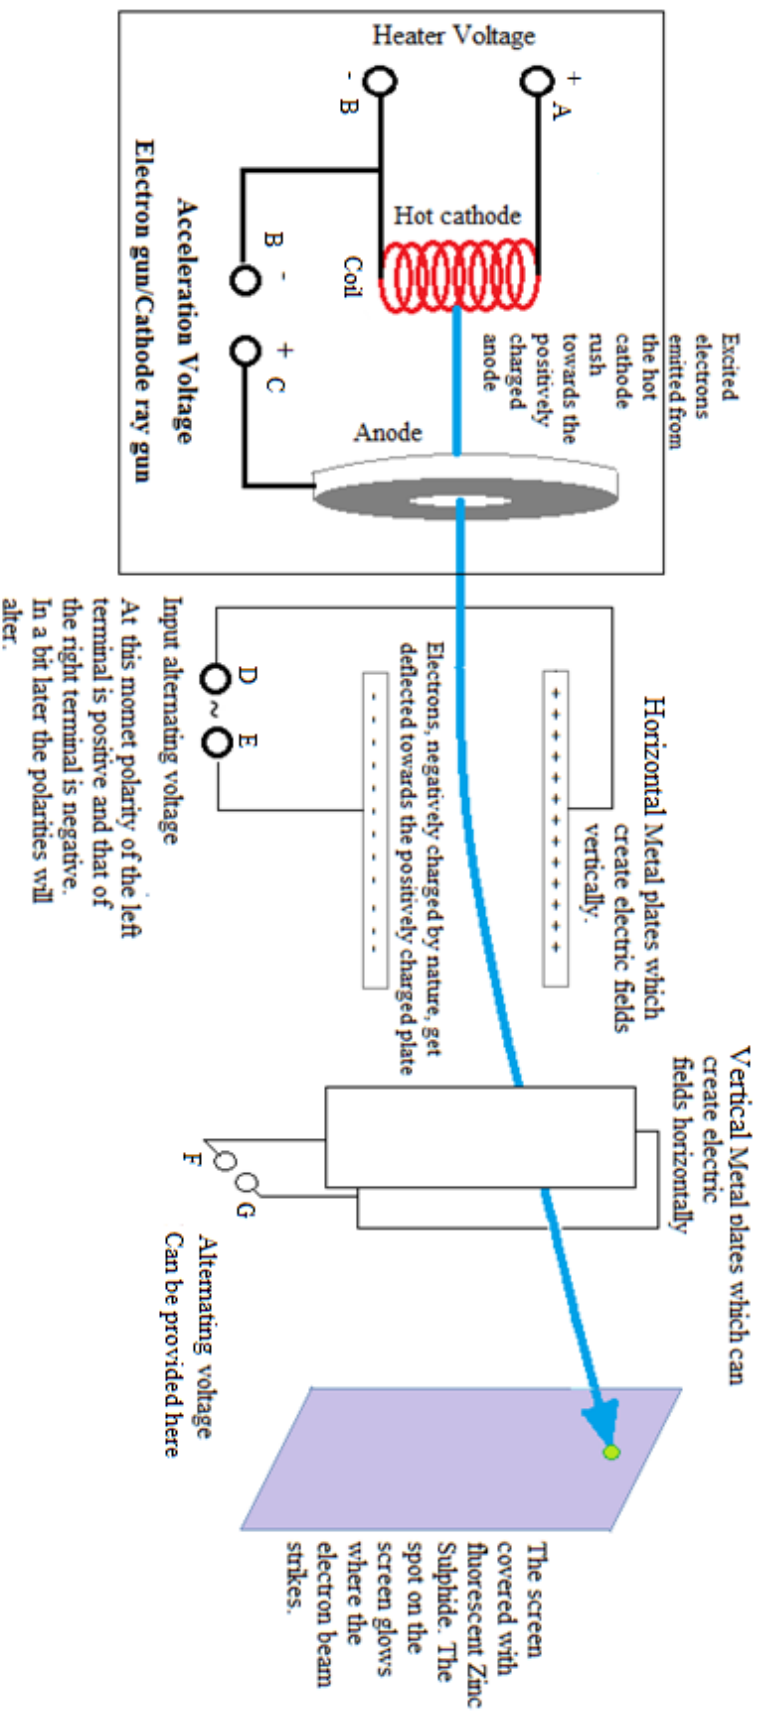
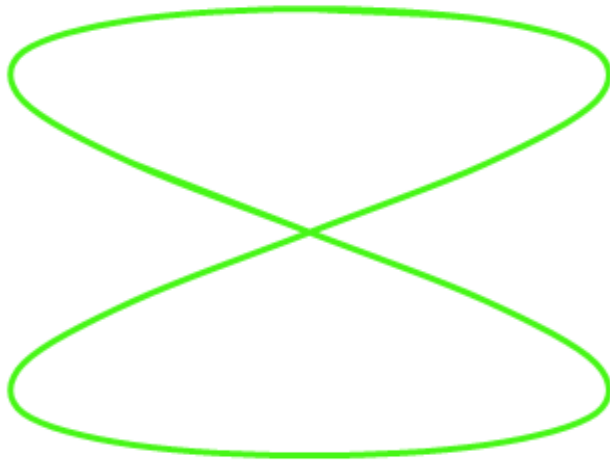
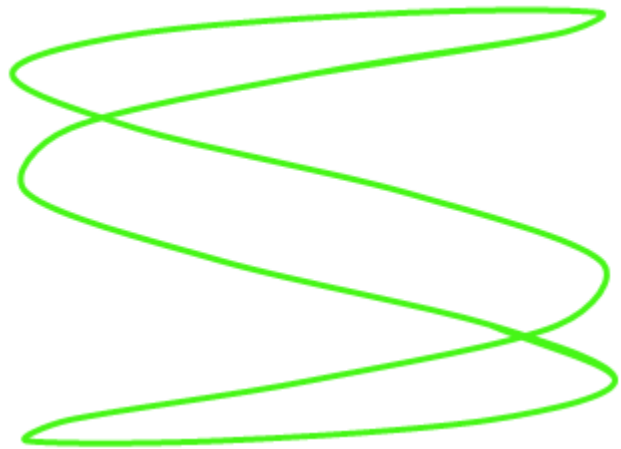

Figure 1: Internal view of a cathode ray oscilloscope
Figure 7: 2 loops (vertical) pattern
Figure 8: 3 loops (vertical) pattern
By using an oscilloscope we can visualize how an alternating voltage signal varies with time. Now, I will briefly discuss the working principle of a Cathode Ray Oscilloscope. In such an oscilloscope there is an electron gun as shown in the Figure 1. A coil is connected between two terminals A and B. A potential difference is created between A and B. The terminal A is positive and the terminal B is negative. The current passing through the coil heats up it to emit electrons. Potential difference between A and B heats up the coil. That is why it is called heater voltage.
The cathode ray passes through a way between two horizontal plane metal plates as shown in the Figure 1. The plates are connected with two electrodes D and E which receive the input voltage signal- subject to our inspection. Voltage signal between D and E oppositely charges the metal plates. Figure 1 shows that at this moment the upper plate is positively charged and the lower one is negatively charged. Electrons, which are by nature negatively charged, will be attracted to the positive plate and will get deflected upward. Suppose, sinusoidal alternating voltage difference is provided between D and E and now the voltage difference is maximum. Next, as time moves on, the positive charge of the upper plate will gradually decrease and negative charge of the lower plate will also gradually decrease. As a result the amount of upward deflection of the cathode ray will gradually decrease. When the electrodes change their polarity the cathode ray gets deflected downward. The downward deflection increases with time, as positive voltage of E and negative voltage of D increase. After the voltage difference reaches maximum, the process reverses. Electrons begin getting deflected upward again. Hence, the alternating voltage input between the terminals D and E forces the cathode ray to oscillate vertically.
To visualize how the input voltage signal varies with time, the cathode ray should be shifted towards horizontal direction. To do so the oscilloscope itself provides a periodic voltage difference between F and G terminals (which are connected with vertical plates in Figure 1). We call it *Sweeping Voltage*. If the voltage vs. time graph is plotted for this alternating voltage signal, then the shape of this graph seems to be a series of right triangles (Figure 2(c)).
In the same way we can argue that in the case of a Lissajous curve of 2 loops (vertical) pattern as shown in Figure 7,
In the case of a Lissajous curve of 3 loops (vertical) pattern as shown in Figure 8,
6) Lissajous curves should be displayed on the screen. Tuning the Frequency Control Knob of the function generator form curves of vertical 1-loop (Figure 1), 2-loops (Figure 7), 3-loops (Figure 8), 4-loops patterns. For each case note down the 'known frequency', i.e., the frequency of the function generator's output alternating voltage,  $f_x$  and the number of cycles along X & Y axes for one complete cycle around the Lissajous curve,  $n_x$  and  $n_y$  respectively. If you generate the curves of the mentioned patterns, then in every case  $n_y = 1$ .
7) Calculate the line frequency,  $f_y$  for every case by using equation (2). Finally, find out their average.